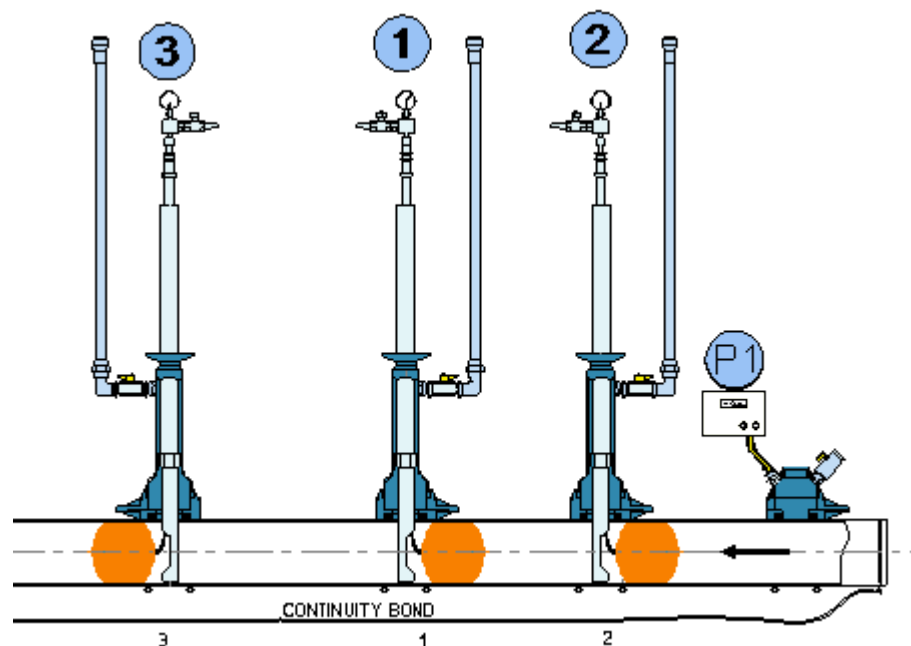

Figure 92- Decommissioning, Removal of Bypass and Insertion of Bag no 3
8. Insert and inflate Bag 3 (safety bag) through bypass drilling on the dead section of main (see Figure 92).